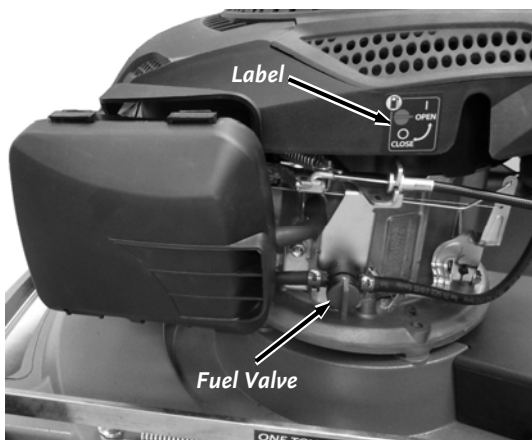

Figure 9
1. Turn the Fuel Shutoff Valve to the “OPEN” position (**Figure 9**).